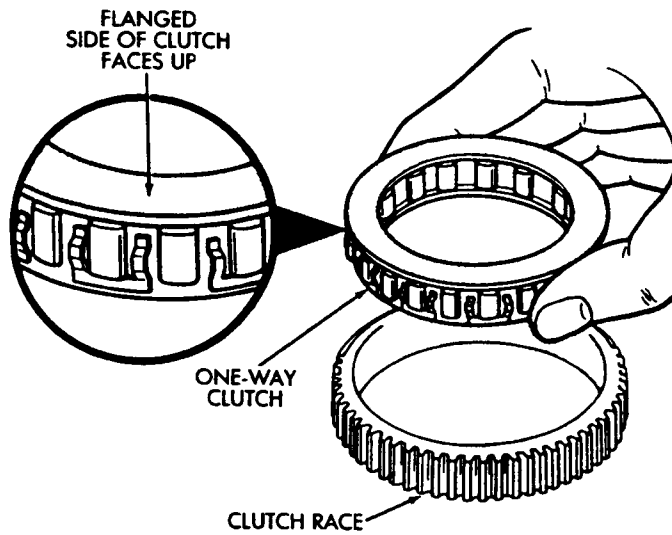
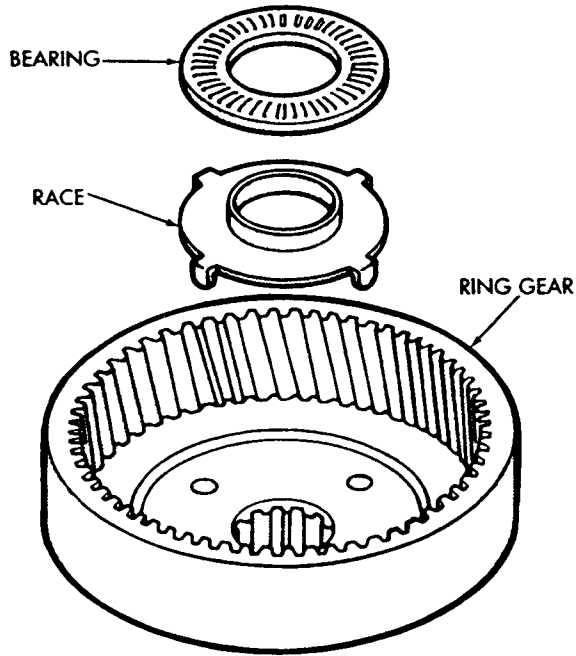

Fig. 21 Assembling One-Way Clutch And Race
Fig. 22 Install Ring Gear Bearing And Race
- (2) Install one-way clutch in race (Fig. 21). Flanged side of clutch must face upward as shown.
- (3) Install assembled one-way clutch and outer race in planetary gear. Be sure flanged side of clutch is facing upward.
- (4) Install clutch pack retaining plate and snap ring in planetary gear.
(5) Coat planetary race with petroleum jelly and install it on planetary gear. Outside diameter of race is 41.8 mm (1.646 in); inside diameter is 27.1 mm (1.067 in).
(6) Install hub in planetary ring gear and install snap ring.
(7) Coat race and bearing with petroleum jelly and install in planetary ring gear (Fig. 22).
(8) Verify bearing/race size. Outside diameter of race is 47.8 mm (1.882 in); inside diameter is 24.2 mm (.953 in). Outside diameter of bearing is 46.8 mm (1.843 in); inside diameter is 26 mm (1.024 in).